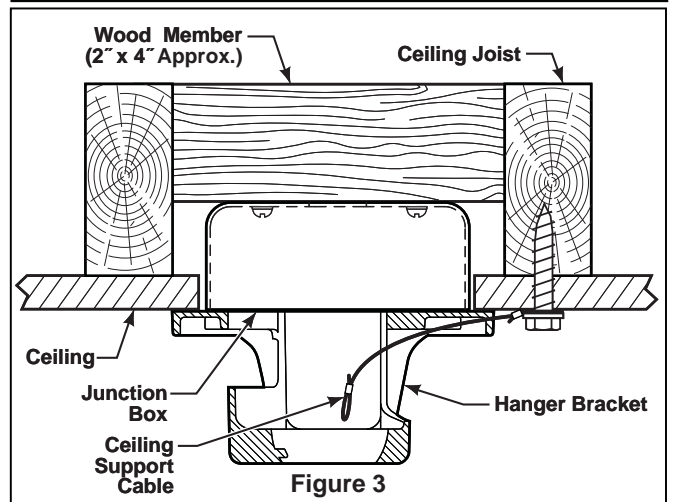

Figure 3
1. Using the  $\frac{3}{8}$ " x 2" lag bolt and flat washer, attach safety cable to ceiling joist or wood structural member. The lag bolt will pass through the flat washer, safety cable loop, and into the building structure (Figure 3). You will first drill a  $\frac{1}{4}$ " pilot hole into the building structure to prevent splitting or cracking.
**NOTE:** Ceiling support cable cannot be secured to junction box only, it must be directly secured to ceiling joist or structural member using the  $\frac{3}{8}$ " x 2" lag bolt and flat washer. (Figure 3)